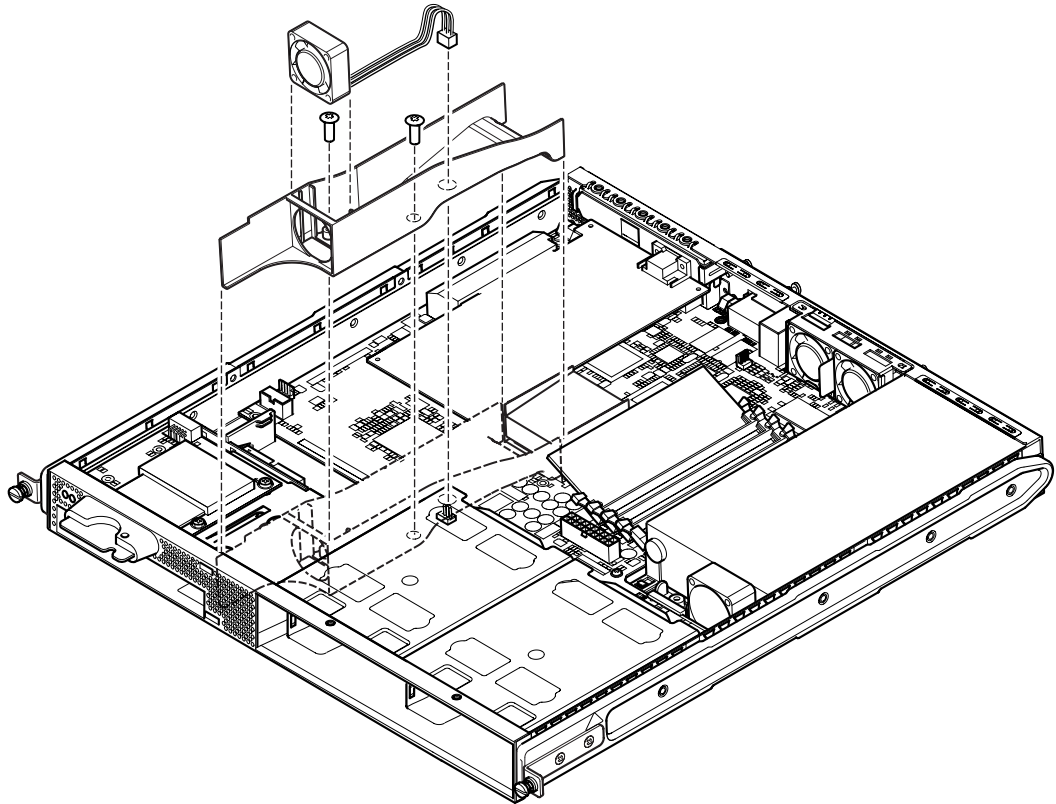

FIGURE 11-6 Unplugging and Removing the Fan 3 Assembly
8. **Unplug the power cable for Fan 3 (see FIGURE 11-6) and undo the two screws that fasten the ducting assembly to the chassis.**
9. **Pull the fan and ducting assembly away from the chassis (see FIGURE 11-6).**